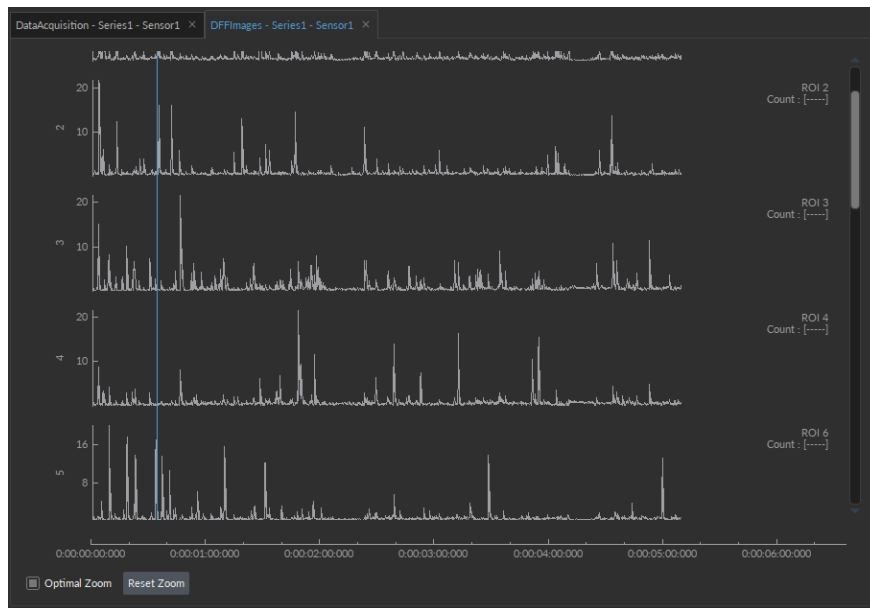

Figure 13.10: ROI View Graph
3. The **ROIs View** panel shows the plot of average intensity as a function of the frame index. The Y-axis represents the average count of all the pixels of the ROI or the variation to the baseline for ROI on normalized images. Each trace on a separate graph represents an ROI, allowing for precise intensity measurements (see Fig. 13.10)